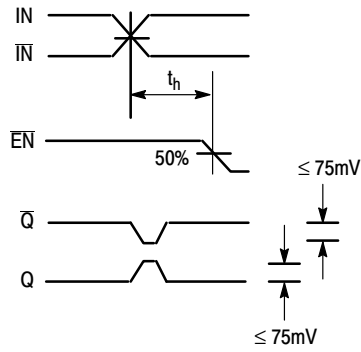

Figure 4. Hold Time
8. The hold time is the minimum time that  $\overline{EN}$  must remain asserted after a negative going IN or a positive going  $\overline{IN}$  to prevent an output response greater than +75 mV to that IN/ $\overline{IN}$  transition (Figure 4).